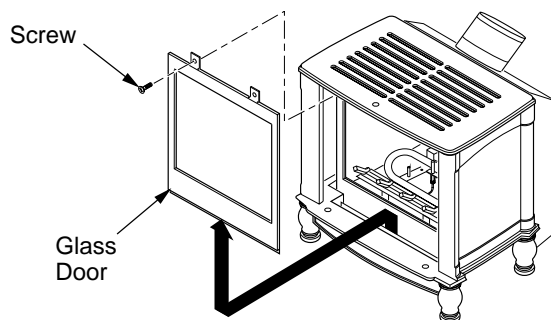

Figure 50 - Removing Glass Door from Burner System Insert
3. Grasp door by both sides and ease it upward off of the lower bracket (see Figure 50, page 22).